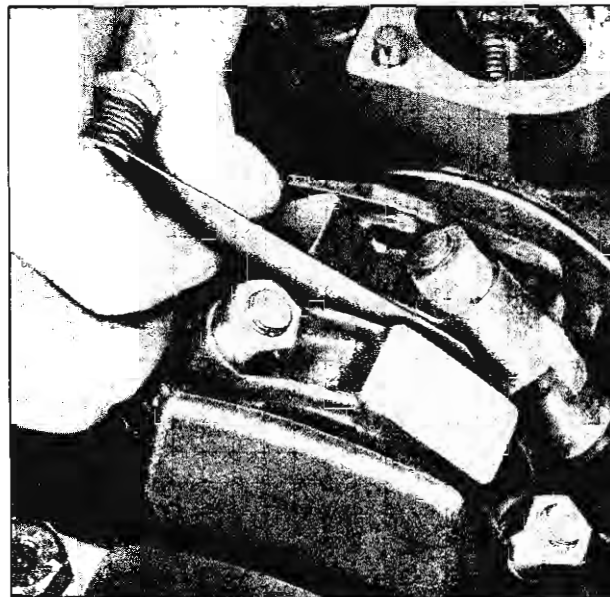

Fig. 179—Connecting Rod Side Clearance
- Check connecting rod clearance between upper half of connecting rod and side of crank pin. This clearance should be .008" to .014" with two rods on each throw of crankshaft (fig. 179).